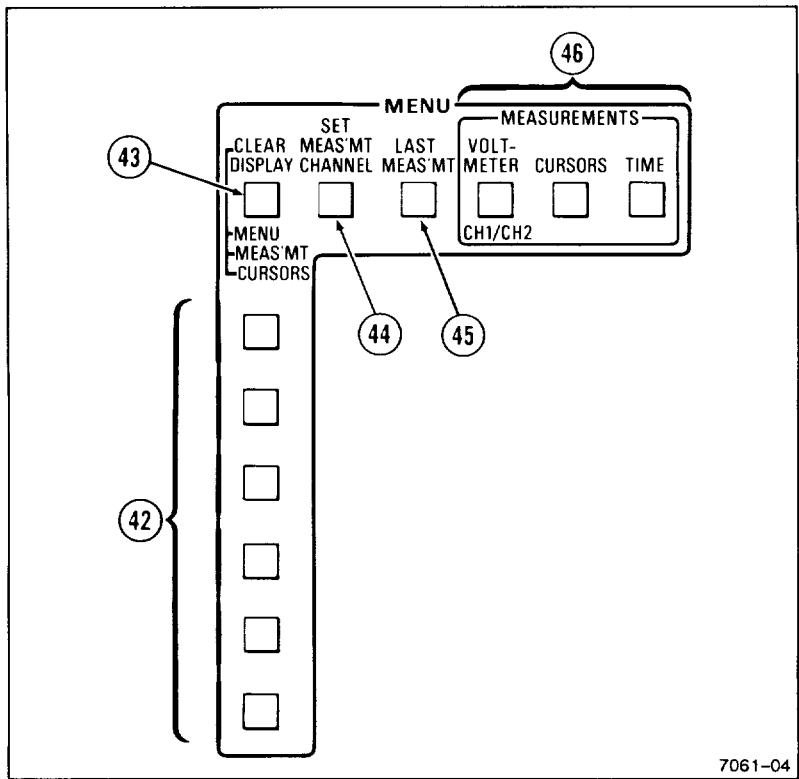

Figure 2-7. Menu controls.
Refer to Figure 2-7 for location of items 42 through 46
- ④2 Menu Item Select Buttons—Select items from the list displayed on the right side of a displayed menu. A Menu Item Select button that has no corresponding menu item does nothing when pressed. The menu display will clear when the item is selected (unless the SERVICE mode CONFIGURE menu is set for: KEEP MENU ON WHEN ITEM SELECTED? YES). The factory settings default is NO.